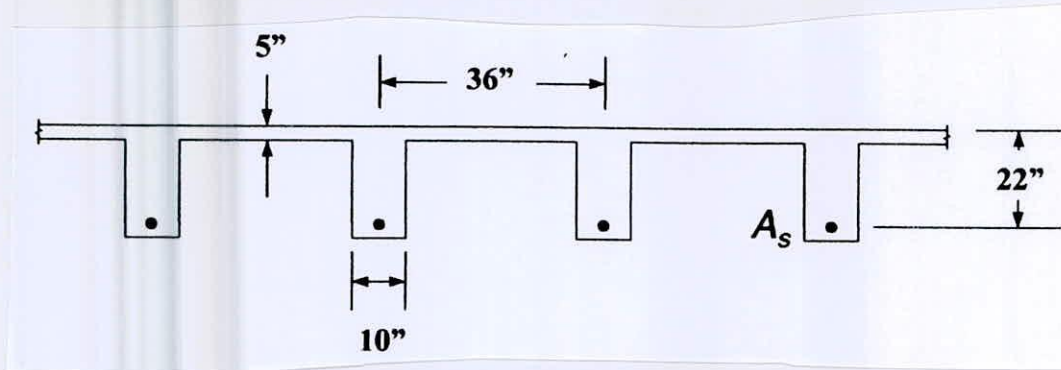

Figure 3
(b) A floor system, shown in Figure 3, consists of a 5 in. concrete slab supported by continuous T beam with a clear span of 20 ft, 36 in. on centres. Web dimensions, as determined by negative-moment requirements at the supports, are $b_w = 10$ in. and $d = 22$ in. What tensile steel area is required at midspan to resist a factored moment of 8800 in-kips if $f_c = 3$ ksi and $f_y = 60$ ksi? (20)